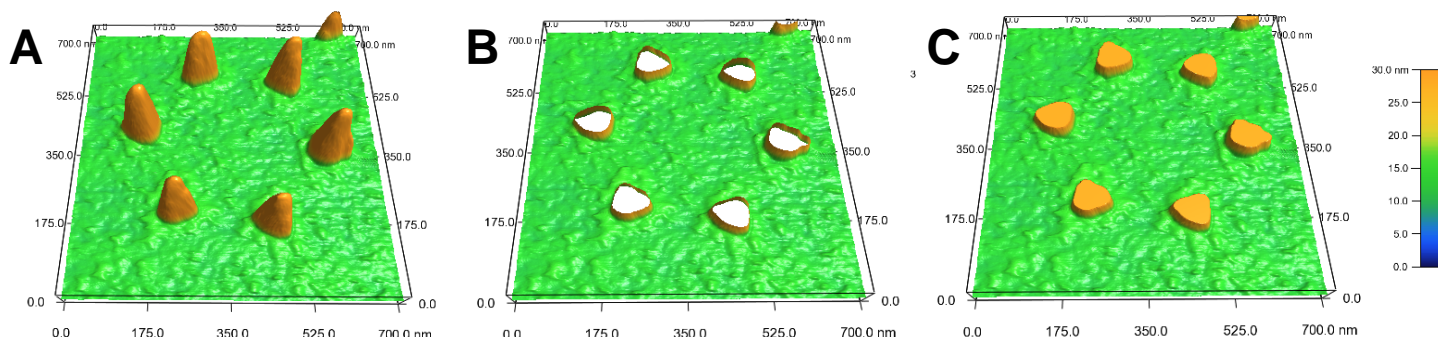

Figure 13.8: Clip mode function: A) none: B) clipped; C) clamped; *Nanosphere lithography sample courtesy R. Van Duyne, Northwestern University.*
- Figure 13.8 shows an image of a nanosphere lithography (NSL) pattern with an exaggerated Z scale. Panel A) shows the 'Clip' pull-down set to 'None'; Panel B) shows the 'Clip' pull-down set to 'Clip'- the higher asperity features are clipped set to some limit such that the ARgyle image appears to have holes where the NSL asperities are; Panel C) shows the 'Clip' pull-down set to 'Clamp'- the higher asperity features are clamped set to some limit such that the ARgyle image appears to have plateaus where the NSL asperities are.